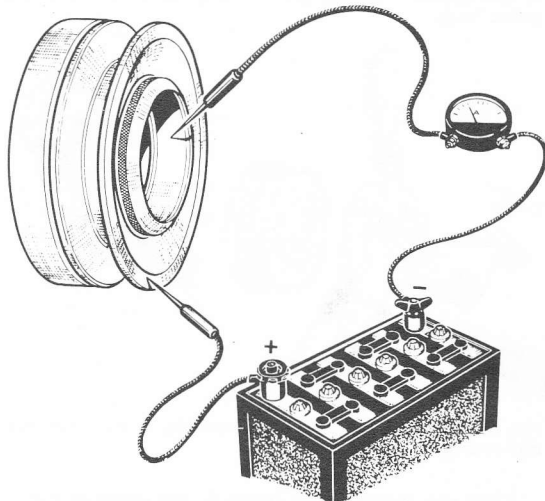

FIG 4:7 Testing the electro-magnet winding
- 2 Drive out the impeller securing pin, if fitted, and, using a suitable puller (see **FIG 4:5**), withdraw the impeller from the shaft.
- 3 Place a few drops of oil under the collar of the seal and rotate the puller C, from tool kit No. 8.0107Z (see **FIG 4:6**), in order to remove the seal. Remove the front bearing snap ring. Submerge the pump body in boiling water for about one minute, and then press out the shaft with its two bearings. The bearings can be removed from the shaft in a press.